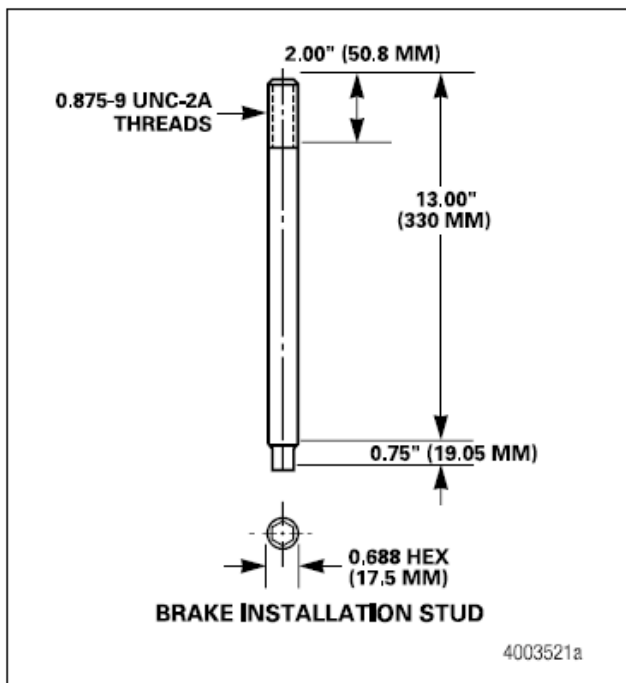

Figure 5.16
2. Unless the disc has been removed, slide the caliper housing subassembly between the disc and axle mounting. Support the housing subassembly in place while installing the two special studs into the two inner bolt holes. Figure 5.16.